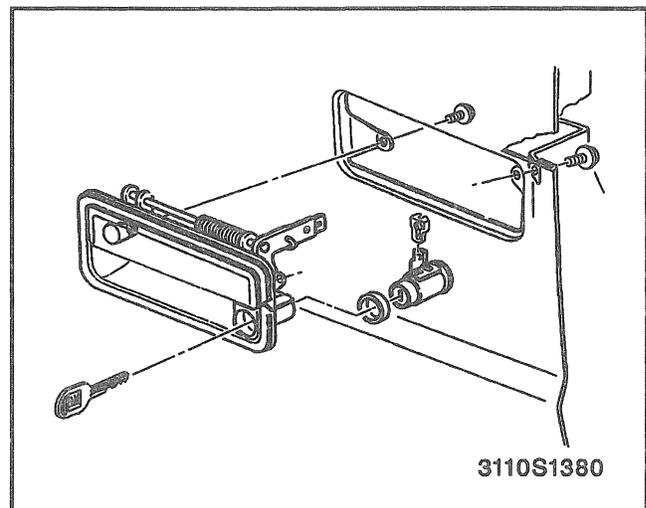

Figure 29—Window Regulator
6. Outside handle mounting screws (Figure 29).
7. Door lock cylinder from the outside handle housing (Figure 29).
8. Handle (Figure 29).
1. Handle to the vehicle (Figure 29).
2. Door lock cylinder to the outside handle housing (Figure 29).